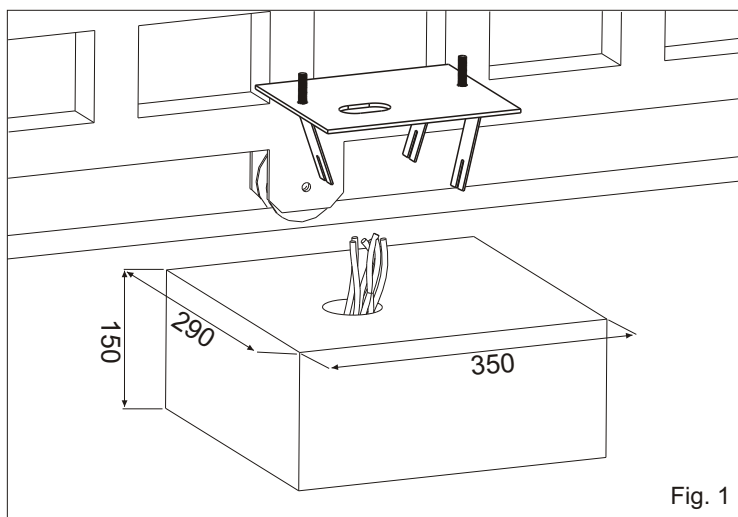

Fig. 1
2.1. Have a mounting plate manufactured to the dimensions shown in Fig. 1. The plate will require to have concrete holding into which the foundation plate and the anchor bolts will be walled up. It is best if the gate structure allows the plate to be raised up from the finished level by 50 mm. This will stop water gathering around the operator.